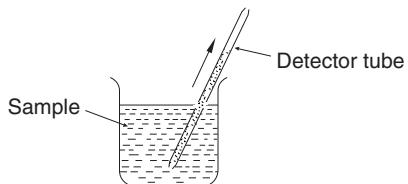

FIG.4.16 IMMERSION
- ⑥ Rinse the gauze in the water in the beaker. Repeat 5 and 6 three times.
- (3) Measuring procedure
- ① Cut off both ends of a chloride ion detector tube with a file. Put the detector tube into the sample water turning the arrow upward (see FIG. 4.16).
- ② Take the detector tube out from the beaker when the water permeates up to the upper end of the reagent. Read the concentration at the end of discolored layer which has been developed by the salinity contained in the sample water.